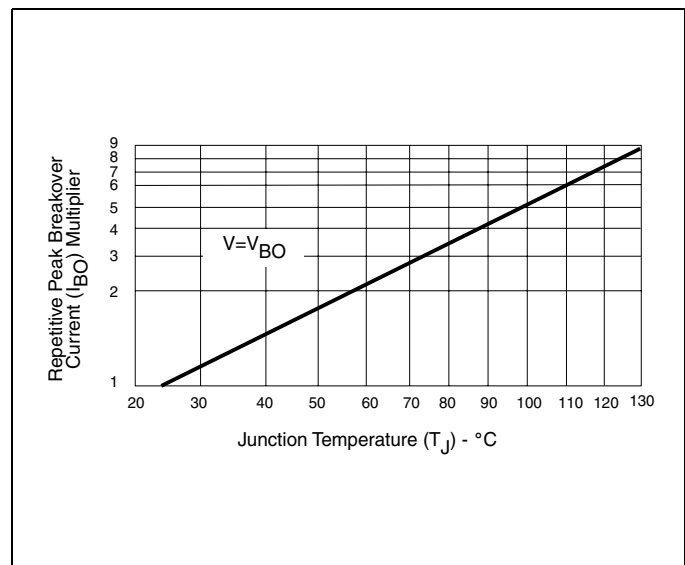

Figure 9.6 Normalized Repetitive Peak Breakover Current vs Junction Temperature
- See Figure 9.6 for I_{BO} vs junction temperature.